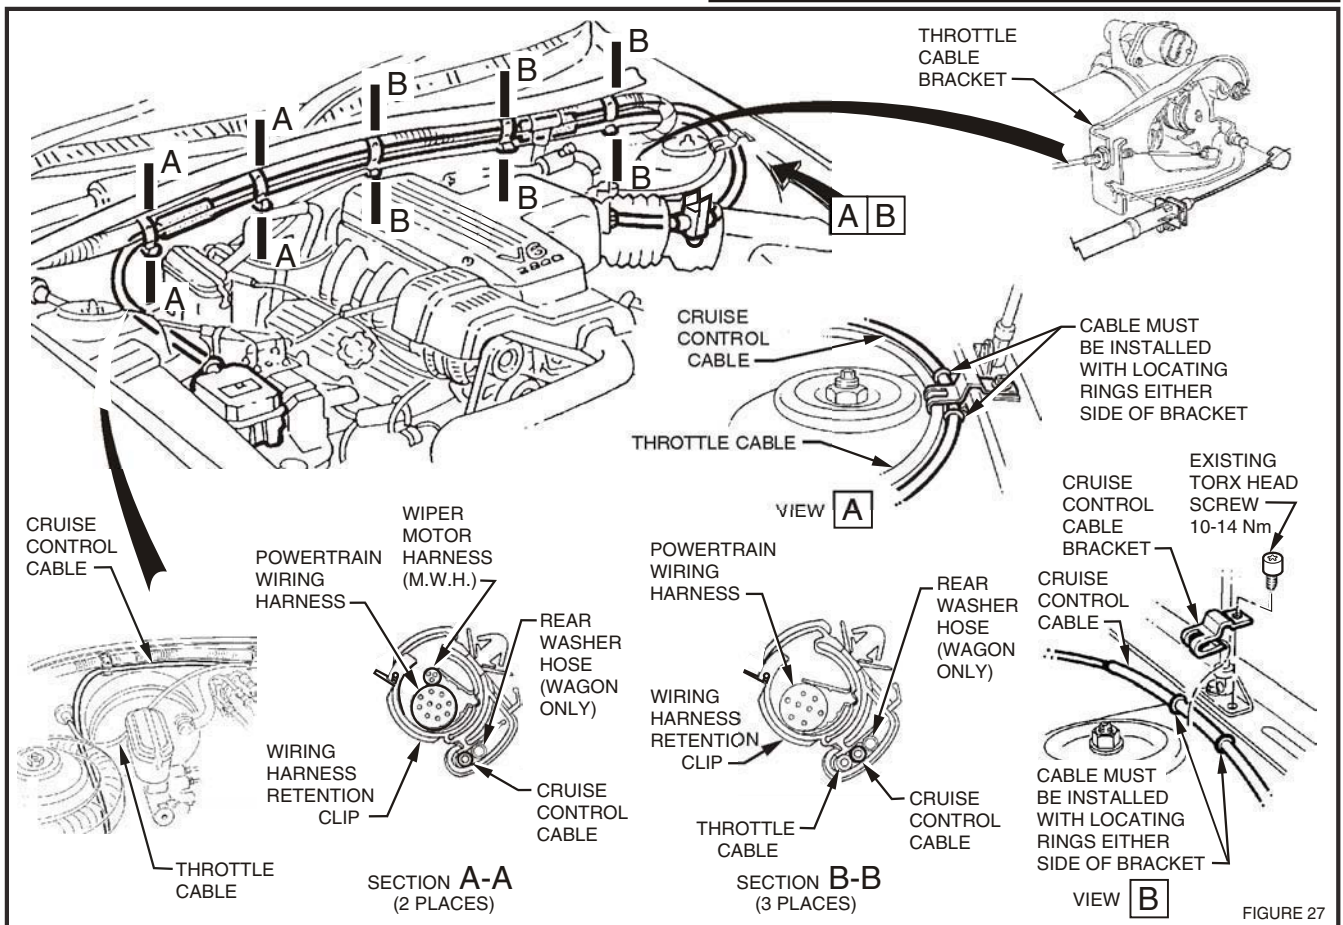

FIGURE 27
62. Attach cable to rear of stepper motor, route cable below former and behind brake booster then attach to engine harness retention clips along edge of firewall (5 places),refer fig. 27.
63. Route cable in smooth arc through throttle/cruise control cable clip on LH fender (if fitted) then towards throttle cable bracket, refer fig. 27, view A.
NOTE: If throttle/cruise control cable bracket is not fitted, remove foremost TORX head screw from LH bonnet strut mounting bracket and fit clip supplied in package, refer fig.27, view B. Torque screw 10-14 Nm.
65. Connect inner cable end to throttle stud then slide outer cable into throttle bracket, refer fig. 27.